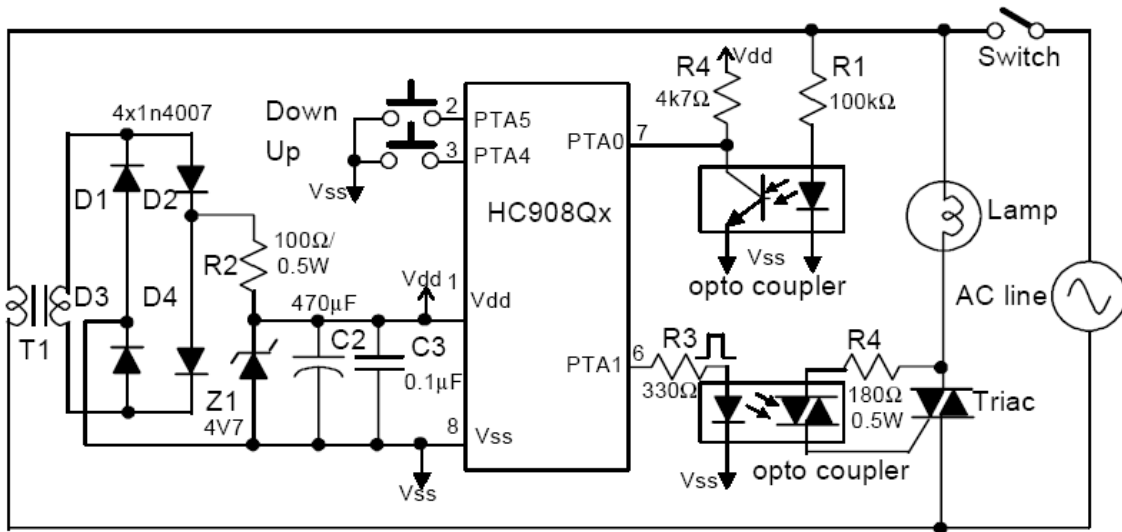

Figure 6. Isolated Dimmer with HC908Q Family
- Isolate the load by an opto-isolator IC. This provides isolation between the load and the control circuit, especially when high isolation voltage is required. Applications involving industrial controls, vending machines, or motor controls would benefit from this technology. Figure 6 illustrates how to implement this type of modification. T1 must have a secondary of 9 V or 12 V so that the zener operates adequately.